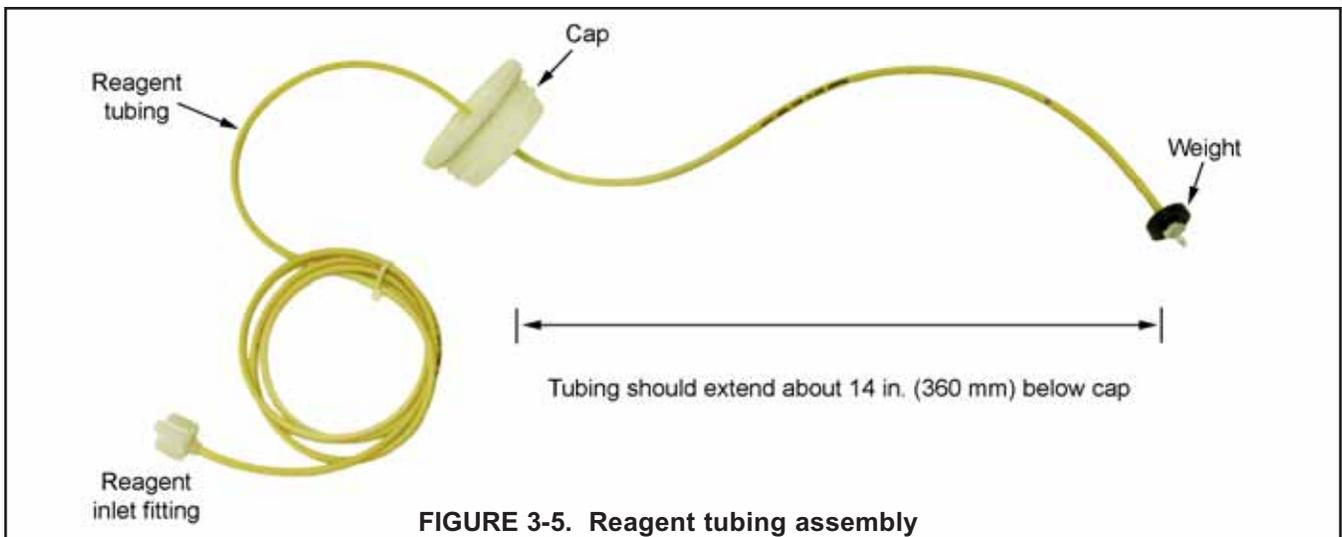

FIGURE 3-5. Reagent tubing assembly
5. Find the reagent tubing and fitting in the plastic bag taped to the inside of the enclosure door. Screw the reagent fitting onto the bulkhead fitting at the bottom left of the enclosure. Pass the reagent tubing through the hole in the carboy cap. Be sure the plastic weight will be inside the carboy when the cap is in place. Attach the reagent tubing to the barbed connector. See Figure 3-5.